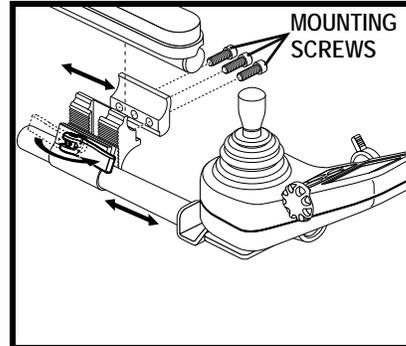

Figure 31. Controller Position – Depth
4. Loosen the mounting screws in the controller mounting block. See **figure 31**.